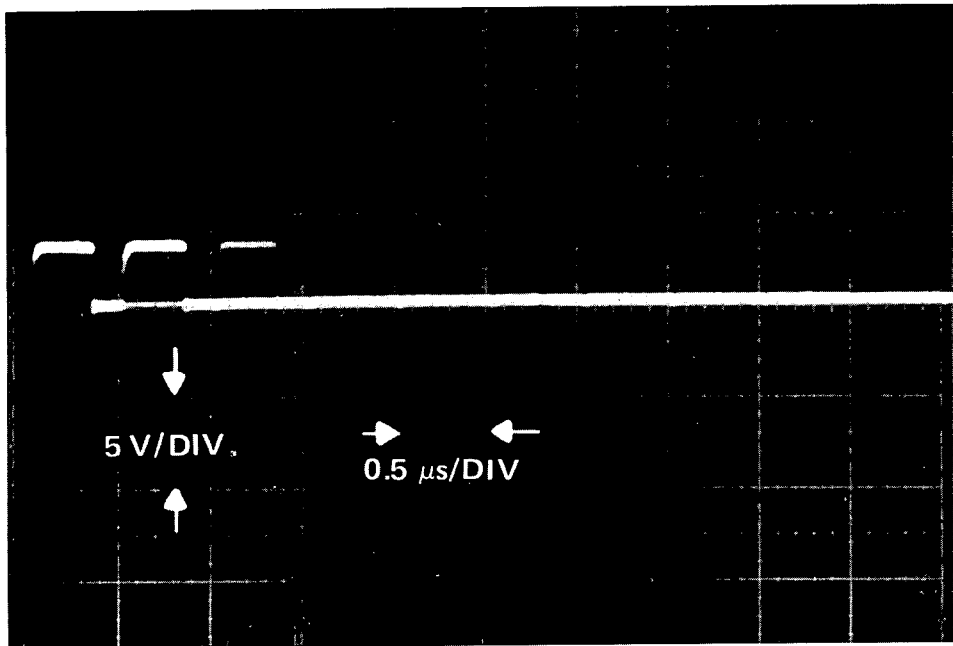

Fig. 11.
- (c) The delayed pulses should now begin to fall in the third 0.5- $\mu$ s cycle (Fig. 11).